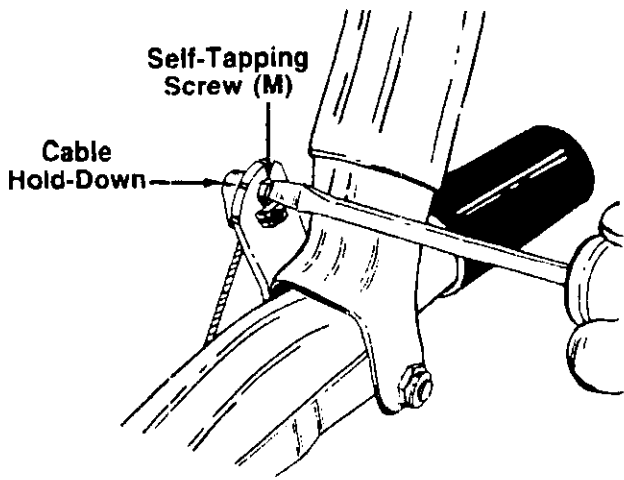

FIGURE 9.
- c. Pull the cable upwards to obtain slack, lift the left hand clutch grip and insert the left hand cable hold-down into the clutch grip. Secure with self-tapping screw (M). See figure 9.